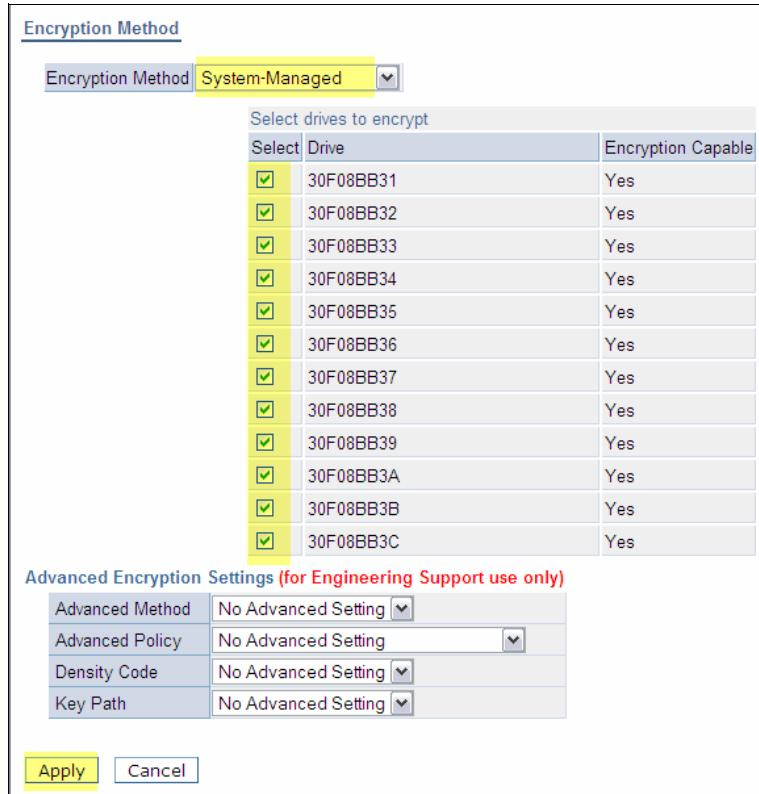

Figure 11-12 Set the encryption method
5. In the window that opens, select **System-Managed** for the chosen method; then, select all drives for this partition (see Figure 11-12).